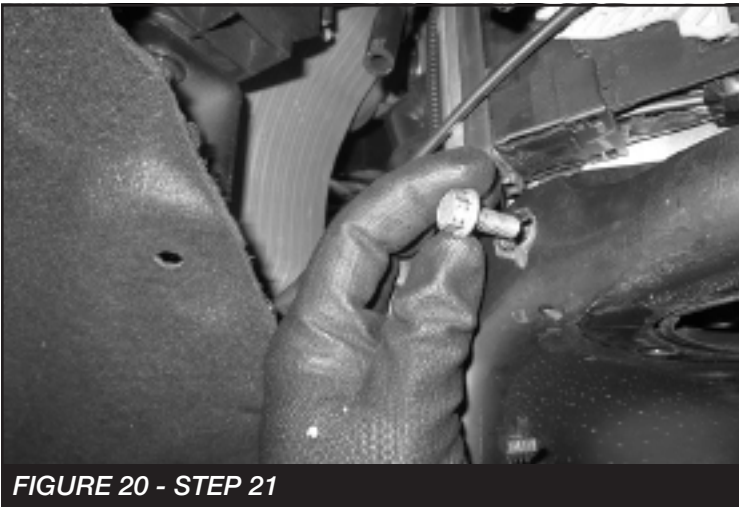

FIGURE 20 - STEP 21
21. Install the factory bolt attaching the ABS mount to the coil bucket. Torque to 29 ft-lbs. **SEE FIGURE 20**